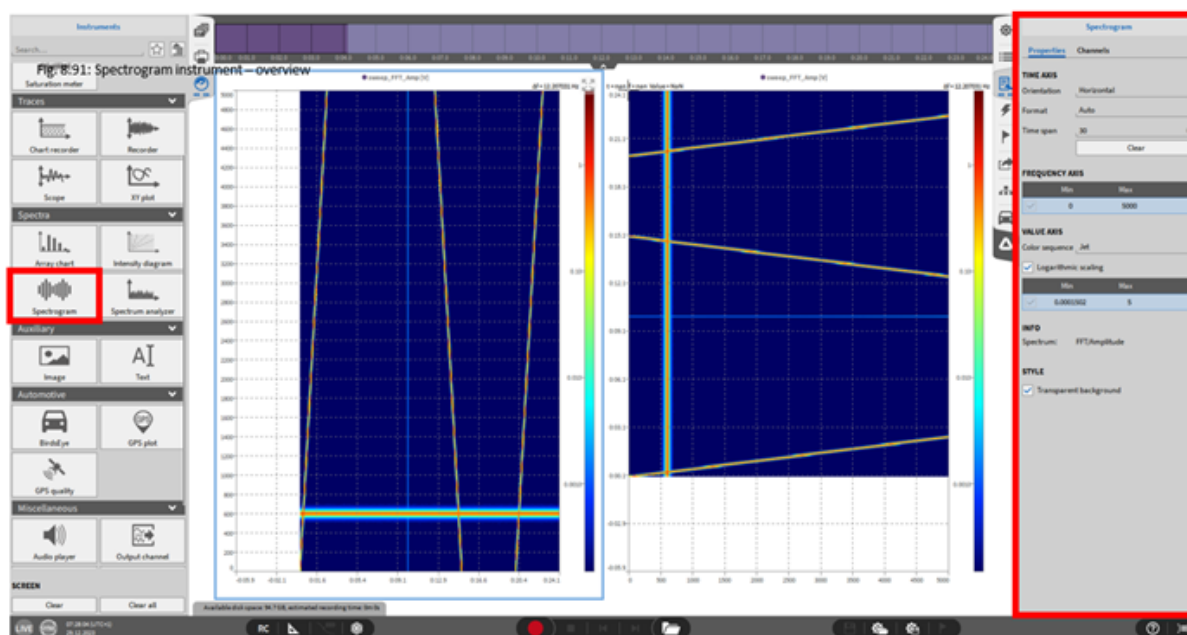

Fig. 8.101: Spectrogram instrument – overview
The elapsed time is displayed on the X-axis, the frequency on the Y-axis and the amplitude of the signal is Color-Coded to the Z-Axis (Left instrument in Fig. 8.101).
- Time Axis – Orientation: *Horizontal* orientation assigns the time axis to the X-axis of the instrument (see left instrument in Fig. 8.101) and *Vertical* orientation assigns the time axis to the Y-axis of the instrument (see right instrument in Fig. 8.101).